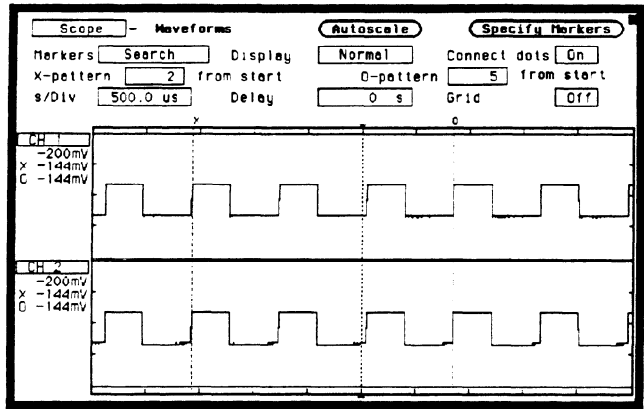

Figure 25-21. Search Markers Menu
1. In the Waveforms menu, select **Markers** field. When the pop-up appears, select the **Search** field. With Markers set to Search, two new fields will appear: **X-pattern__from start**, and **O-pattern from start**. Set the X-pattern to 2, and the O-pattern to 5. Set the s/Div to 500 μ s. See figure 25-21.